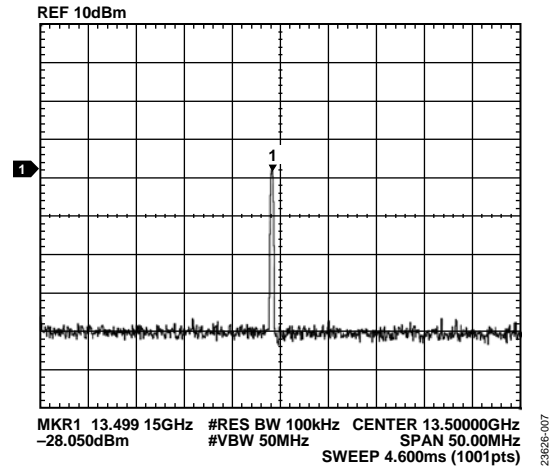

Figure 5. EV1HMC8362LP6G, VCO Band 1,  $V_{TUNE} = 8.45$  V, 13.5 GHz, Buffer Amplifier Disabled (J3 Output Muted), Includes Insertion Loss of RF Cable
Figure 5 shows the EV1HMC8362LP6G with VCO Band 1, but with the output buffer muted (VCB\_EN on P3 = 0).
3. Remove the bias for the buffer amplifier (VCB), which results in the output power decreasing by approximately 28 dBm. Refer to Figure 5.